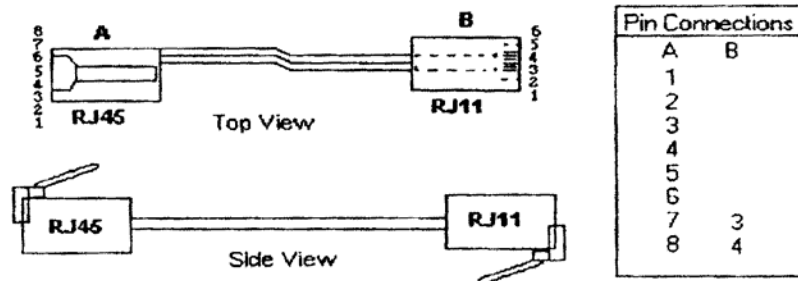

Figure 4, SmartHub to 62606(TR648) Cable
2. Connect the RJ11 side of the cable to the 62606(TR648) and the RJ45 side to the SmartHub. Refer to Figure 4 for cable orientation.